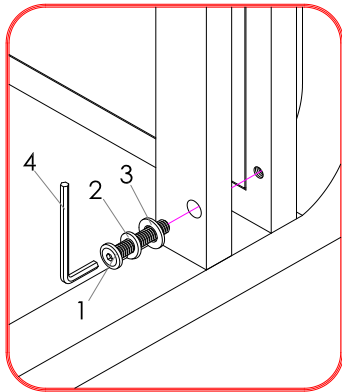

FIGURE 02
5. Attach the Shelf frame 1 (A3) into the side frame, align and insert Allen bolt (1) together with lock washer (2) and flat washer (3) to each fixed nuts under top through the hole on the side frame. Tighten all the bolts by using wrench (4). **DO NOT FULLY TIGHTEN.** See **FIGURE 02.**